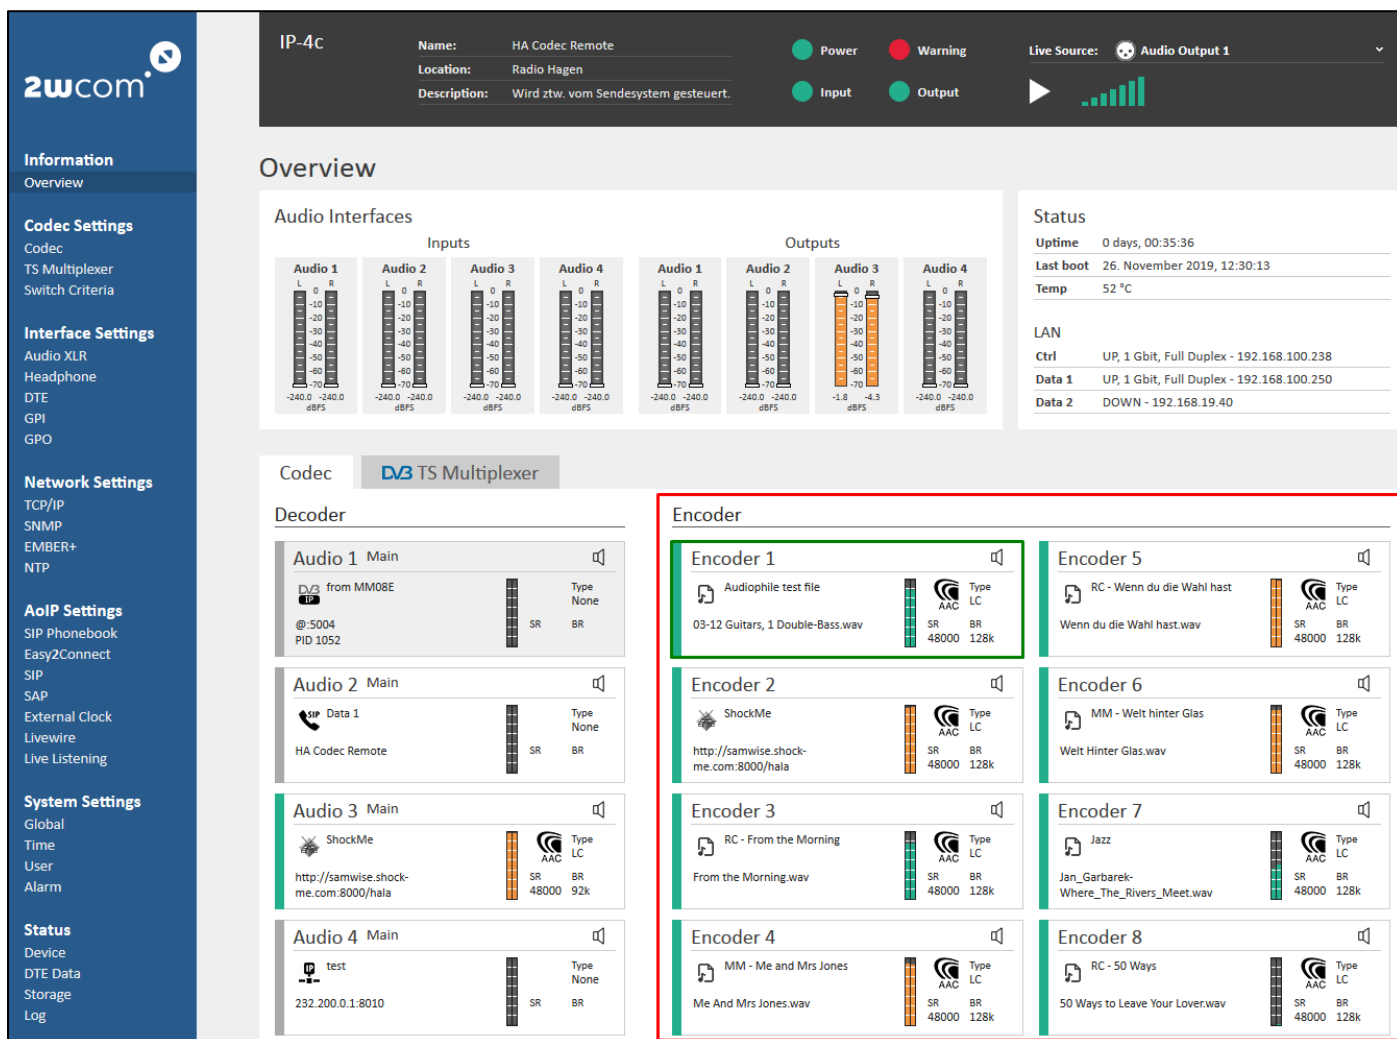

Figure 38: Overview – Encoder 1-8 State (version with activated “TS Multiplexer” rights: tab “Codec”)
⇒ Under **Information**→**Overview** you can call up the status of the FEC in the Encoder Details block (recovered/unrecovered IP packets, see Figure 38 on page 58 and Figure 39-Figure 40 on page 59).
1. Under **Information**→**Overview** you can see the configured inputs and codec profiles for all Encoders 1-8 in the “Encoder” field (see Figure 38, red frame).
2. To see more details about the encoder status, select one encoder (e.g. “Encoder 1” in Figure 38, green frame) and the parameters of the currently encoding signal in the selected Encoder will be displayed in the field below (“Details-Encoder 1” in Figure 39, green frame).